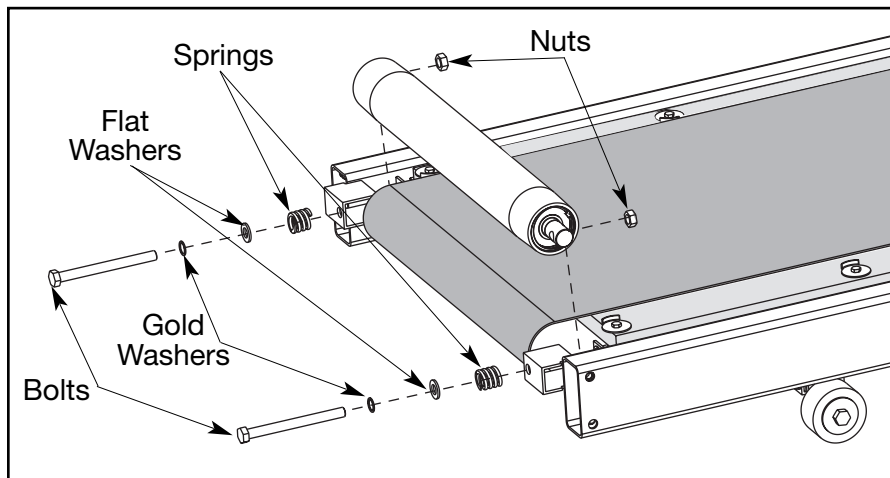

Figure 3
- A.** Using a 3/4" socket wrench, loosen and remove the two rear roller bolts. See Figure 3. Loosen each bolt evenly, making sure not to loosen either bolt too many turns before moving to the other bolt. Remove the bolts, washers, springs, and nuts and set them aside.
- B. Place the bolts, washers, springs, and nuts in position as shown in Figure 3. Partially tighten the two bolts leaving them loose until step 13 D.